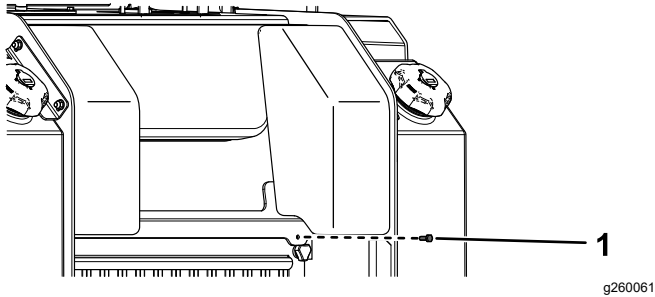

Figure 41
1. Remove the fastener (Figure 41).
2. Lift the rear-access cover up and secure the prop rod to access the internal components (Figure 41).